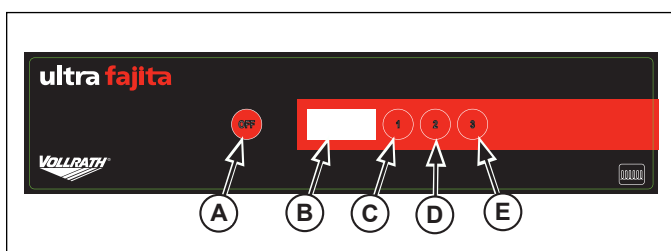

Figure 1. Control Panel
2. Press the "1", "2" or "3" button. Then the heating cycle will begin and the preset timer will begin to countdown on the display panel (B). See Figure 1.